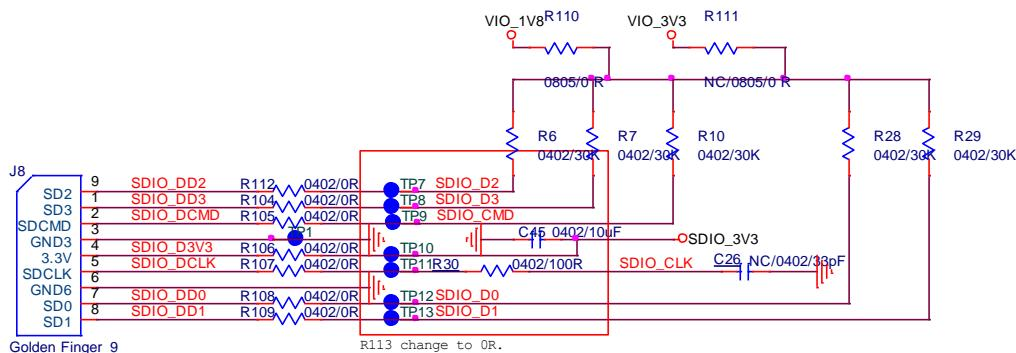

Figure2. WiFi verification connection interface to Host SDIO as using SDIO2.0
- ❖ Refer to Figure2 SDIO pin definition connects the J8 interface of AP6281S evaluation board to Host SDIO control interface.